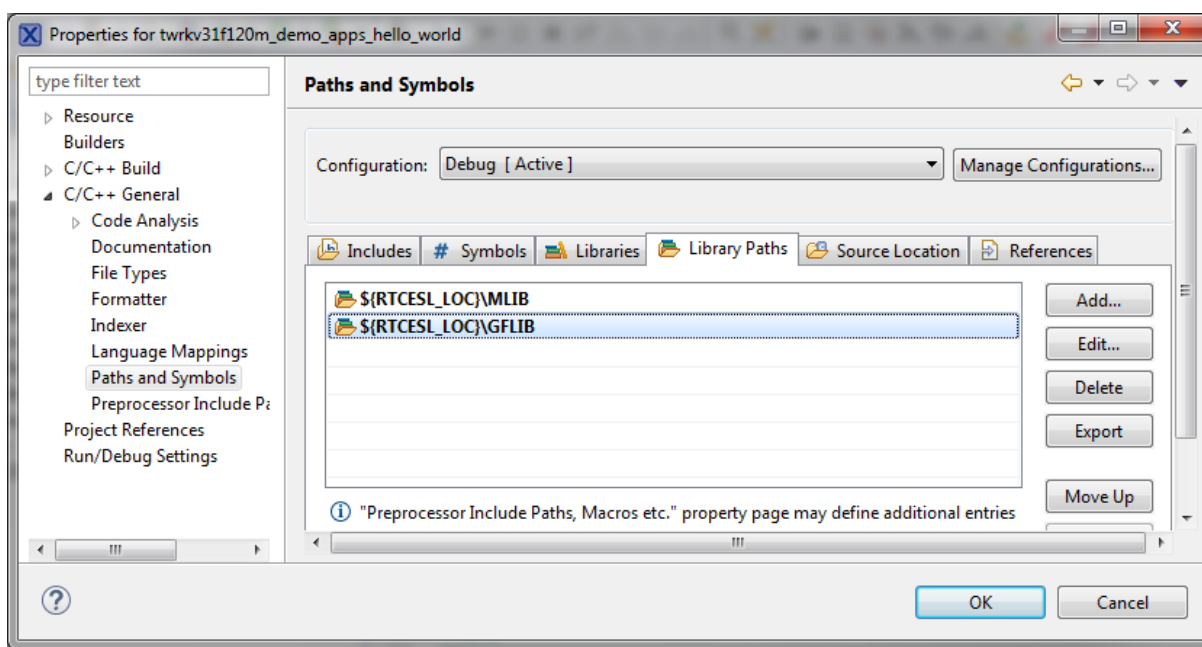

Figure 1-7. Library paths
3. In the right-hand dialog, select the Library Paths tab. See Figure 1-7.
8. Click OK, you will see the paths added into the list. See Figure 1-7.